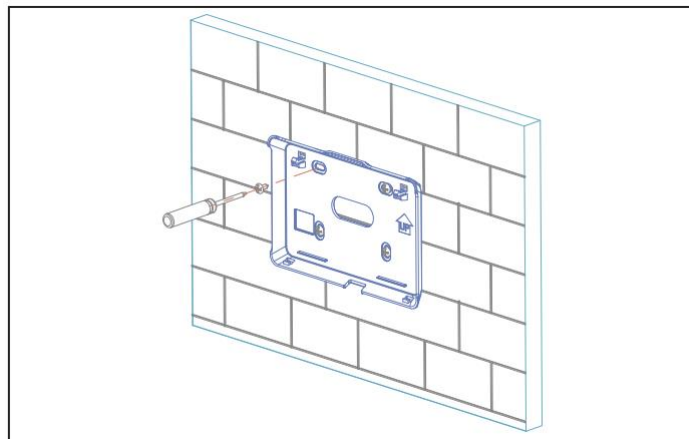

Figure 3 Attach back cover to wall
3.1.2 Attach the back cover to the wall using screws. See Figure 3.